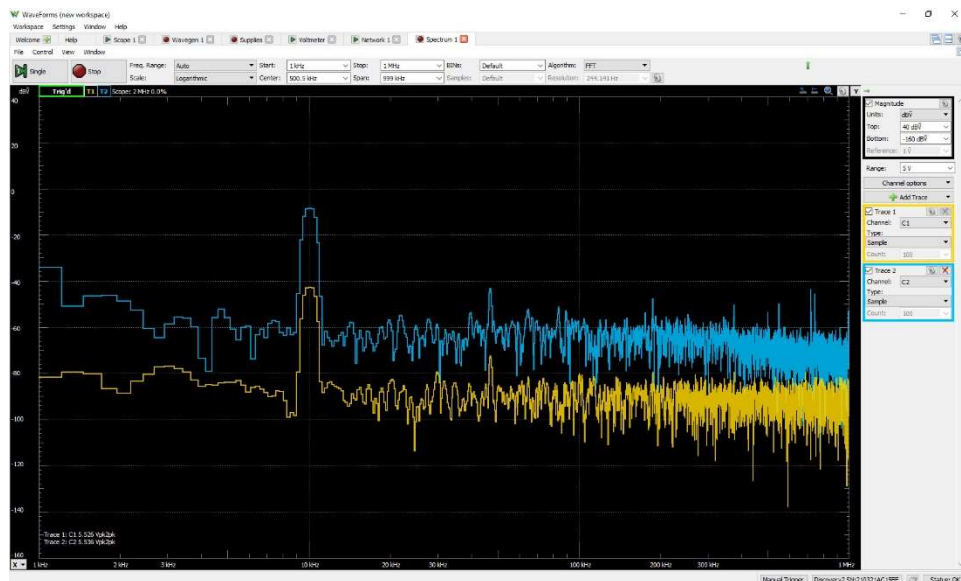

Figure 5.4. Spectrum of input and output waveforms.
23. A spectrum analyzer determines the frequency components present in a signal. Your output should be similar to Figure 5.4. In the figure, C1 (yellow trace) is measuring the input waveform. It shows that there is a 10kHz component with magnitude approximately -40dBV, i.e. 10mV. There are no other frequency components above the noise floor of the measurement. The output also has a component at 10kHz with magnitude of -10dBV. The difference (30 dB) is the gain of the amplifier. (Note that these results were generated for a circuit with different component values – your quantitative results should be different.) Again, there are no other frequency components above the